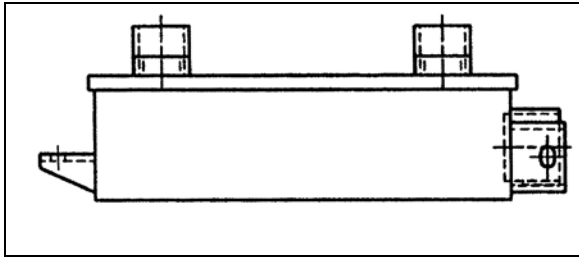

FIGURE 8: COOLER WITH RETARDER (07073)
2. Disconnect the two transmission hoses from oil cooler. Cover hose ends and fittings to prevent fluid contamination (Figure 8).